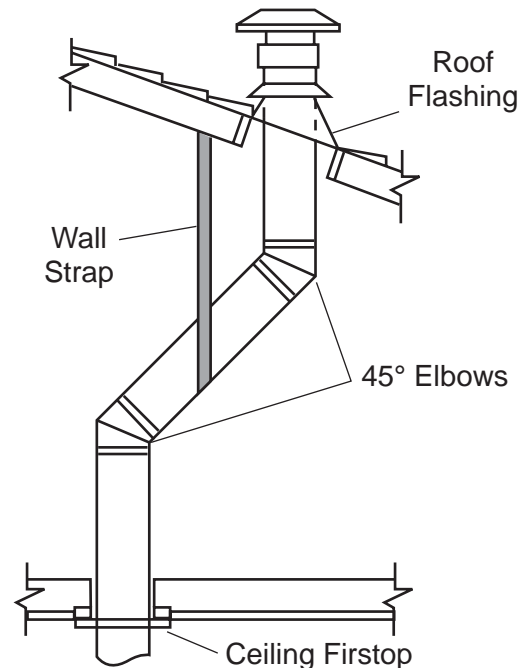

Figure 30 - Offset with Wall Strap and 45° Elbows
1. Determine the route your vertical venting will take. If ceiling joist, roof rafters or other framing will obstruct the venting system, consider an offset. See *Figure 30* to avoid cutting load bearing members.